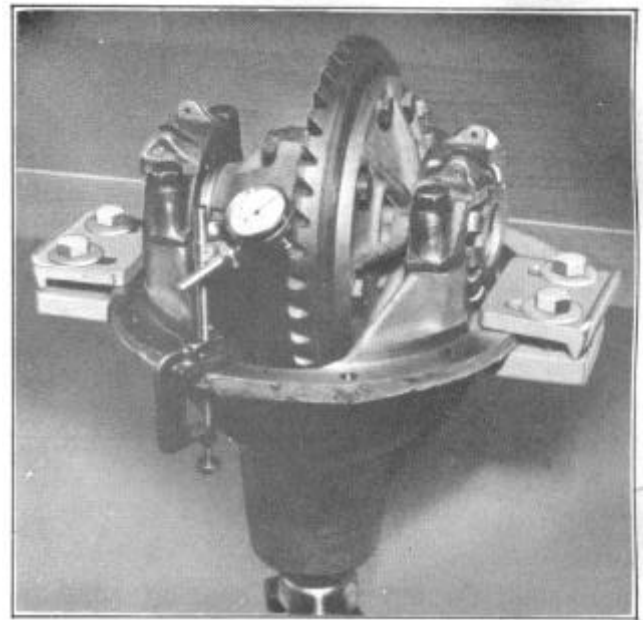

FIGURE 31
12. Rest plunger of dial indicator on the outer edge of the ring gear tooth. See Figure 31. When moving the ring gear by hand, the backlash should be between .004" to .006". If the reading does not conform to recommended tolerances turn adjusting nuts one half notch at a time until desired reading is obtained.